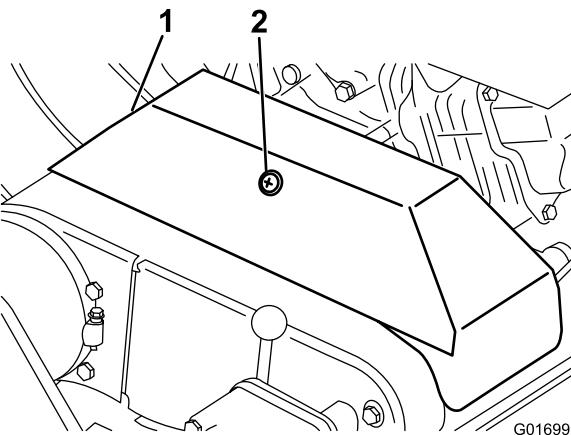

Figure 43
- Loosen the retainer securing the V-belt cover and pivot the cover open (Figure 43).
2. Loosen the retainer securing the V-belt cover and pivot the cover open (Figure 43).